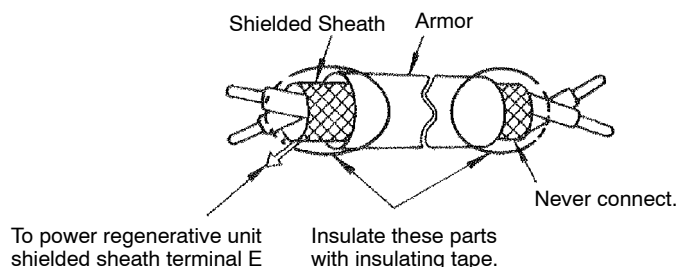

Fig.12 Shielded Wire Termination
- Use twisted shielded or twisted-pair shielded wire for the control circuit line and connect the shielded sheath to inverter terminal E. (See Fig.12)